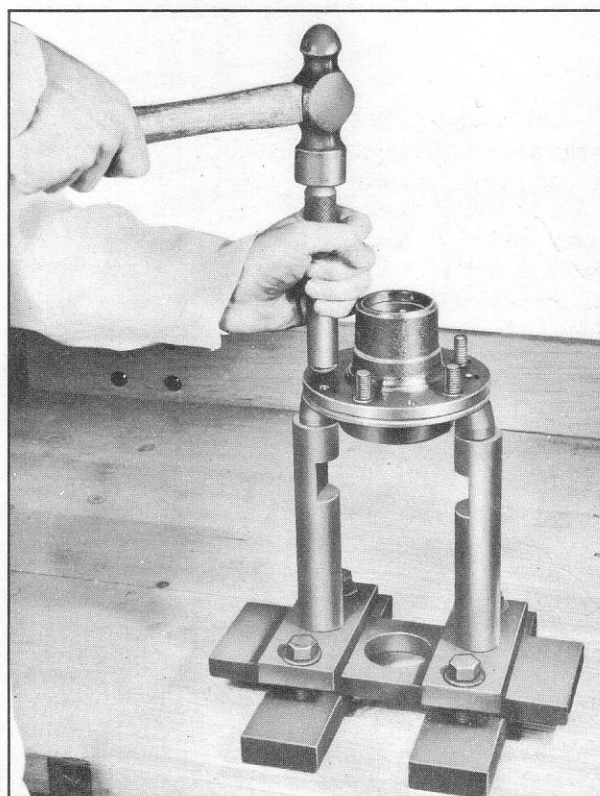

Fig. 8—Peening Front Hub Bolts
6. The end of the shoulder on the hub bolts should be peened into the countersink around the bolt holes in the hub flange, using J-554 peening tool and anvil (fig. 8).